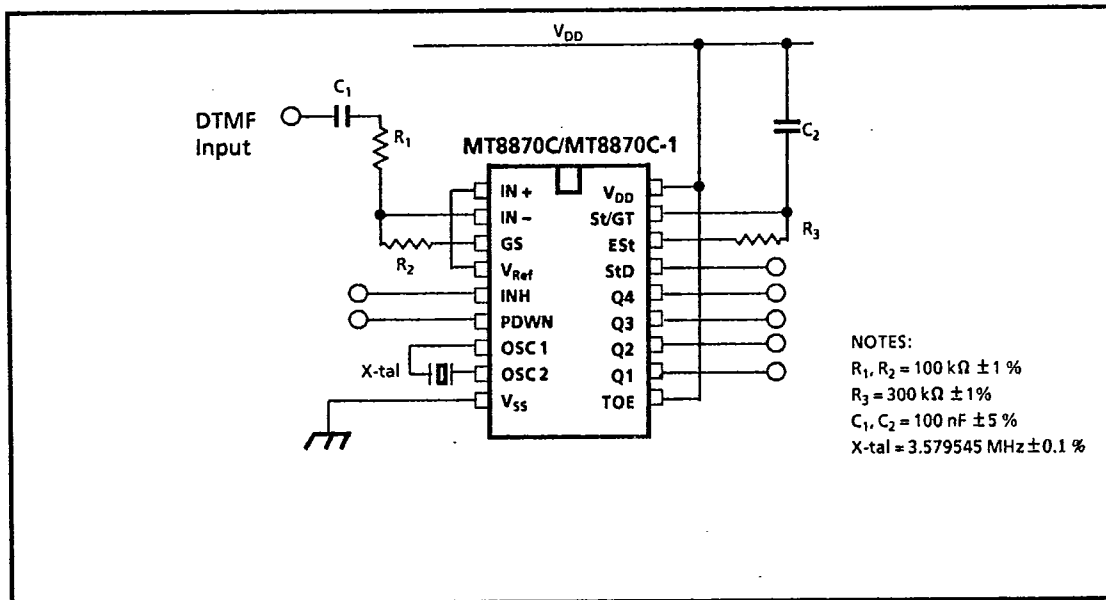

Figure 2 - Single-Ended Input Configuration
MT8870C AC Electrical Characteristics† -  $V_{DD} = 5.0V \pm 5\%$ ,  $V_{SS} = 0V$ ,  $-40^{\circ}C \leq T_O \leq +85^{\circ}C$ , using Test Circuit shown in Figure 2
**MT8870C-1 AC Electrical Characteristics1** -  $V_{DD} = 5.0V \pm 5\%$ ,  $V_{SS} = 0V$ ,  $-40^{\circ}C \leq T_O \leq +85^{\circ}C$ , using Test Circuit shown in Figure 2
AC Electrical Characteristics -  $V_{DD} = 5.0V \pm 5\%$ ,  $V_{SS} = 0V$ ,  $-40^{\circ}C \leq T_o \leq +85^{\circ}C$ , using Test Circuit shown in Figure 2
The input arrangement of the MT8870C/MT8870C-1 provides a differential-input operational amplifier as well as a bias source ( $V_{Ref}$ ) which is used to bias the inputs at mid-rail. Provision is made for connection of a feedback resistor to the op-amp output (G5) for adjustment of gain. In a single-ended configuration, the input pins are connected as shown in Figure 2 with the op-amp connected for unity gain and  $V_{Ref}$  biasing the input at  $\frac{1}{2}V_{DD}$ . Figure 7 shows the differential configuration, which permits the adjustment of gain with the feedback resistor  $R_5$ .
The internal clock circuit is completed with the addition of an external 3.579545 MHz crystal and is normally connected as shown in Figure 2 (Single Ended Input Configuration). However, it is possible